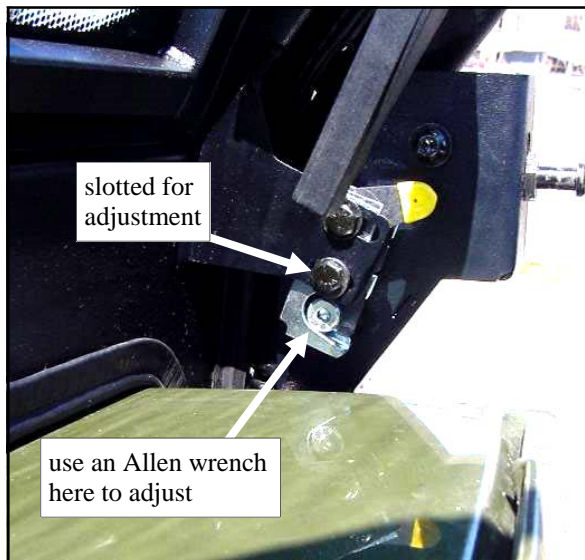

Fig. 3.2.A (view from inside of passenger's side)
3.2 Three areas are adjustable if a better seal is desired. First be sure that the pins are at the bottom of the receiving slots in the top mounts before beginning any adjustments. The lower latches have adjustment in and out (see fig. 3.2.A). The lower pins have adjustment up and down. The upper pins have adjustment in all directions due to an angled slot. Make the necessary adjustments until you achieve “double click” engagement. If the issue is with the seal against the frame tubing, adjust the lower latches in or out. If the issue is with the seal against the hood, adjust the lower pins up or down. The upper pins also have up and down adjustment if more is necessary.